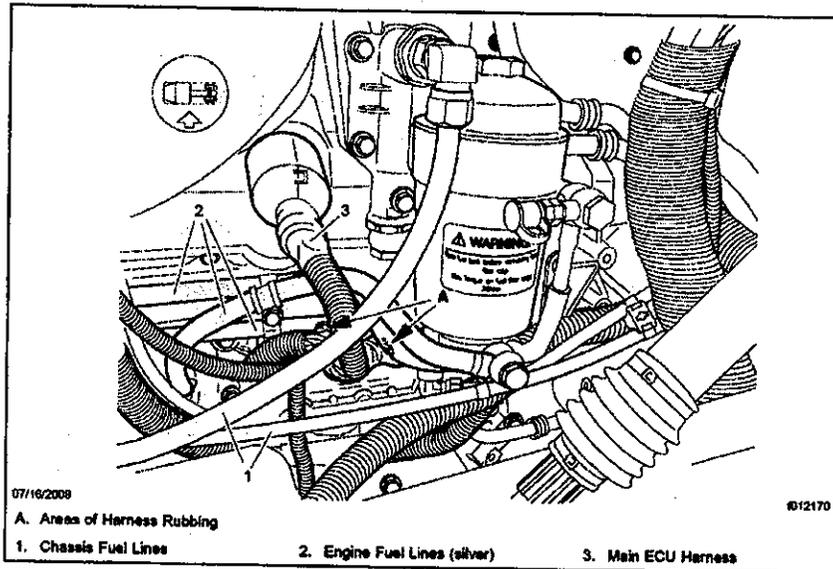

Figure 2 – Main ECU Harness On Left Side Of Engine
1. Find the main ECU harness on the left side of the engine. Reference Figure 2.